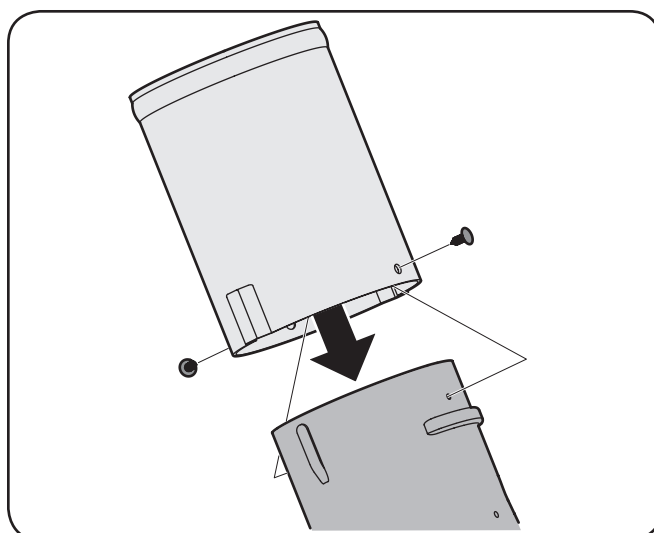

Figure 4-25
13. Install the chute adapter onto the chute elbow by lining up the tabs and sliding the adapter over the chute elbow, as in Fig. 4-25. Secure the chute adapter by installing the two ratchet clips included in the hardware pack in the holes provided.